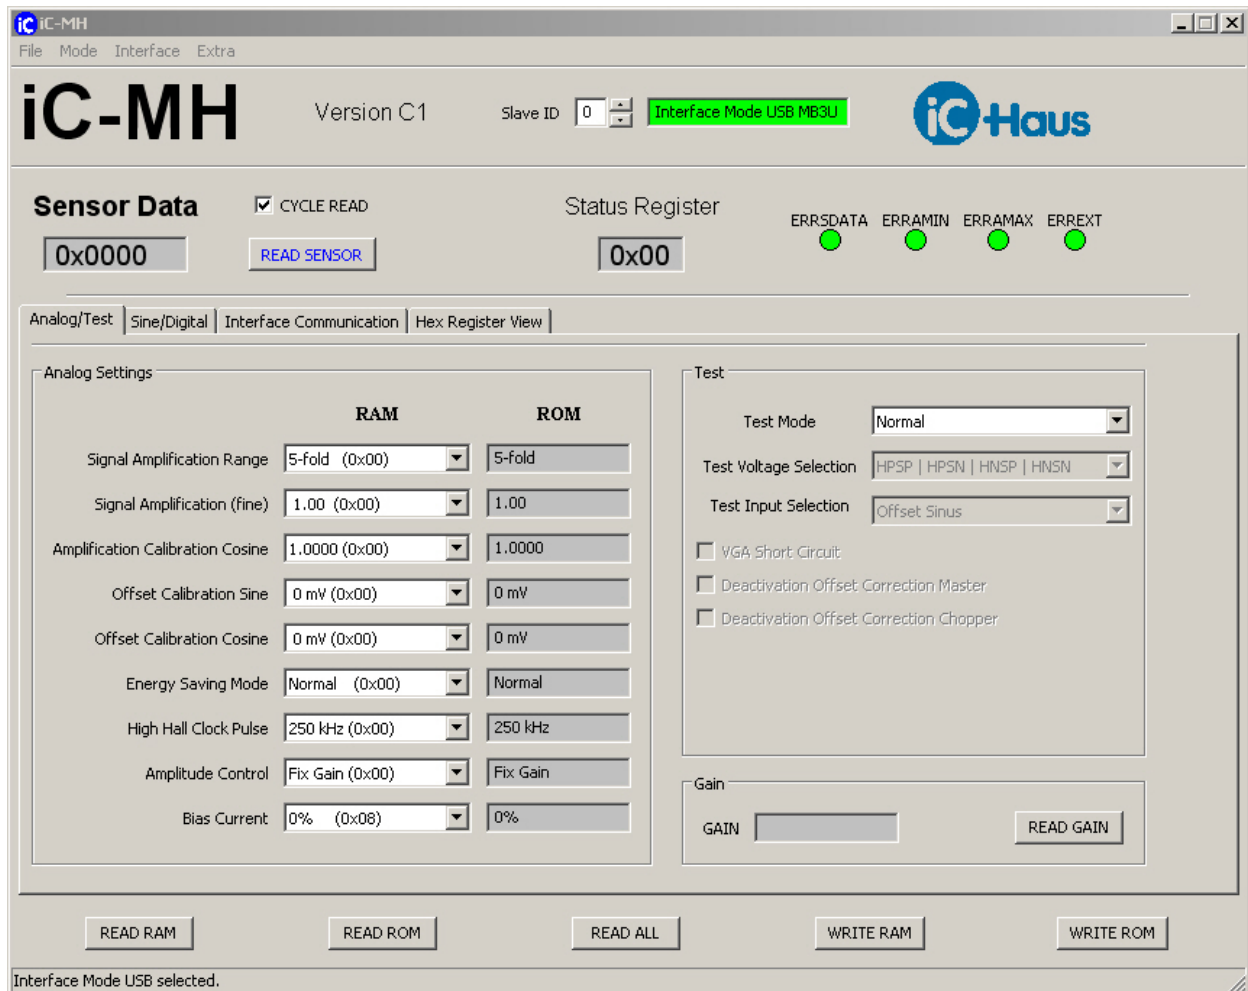

Figure 7: Evaluation software start-up window (shown for iC-MH)
3. After installation the executable MH1SO_gui_xx.exe will be available in the selected working directory. Figure 7 shows a screenshot of the evaluation software.